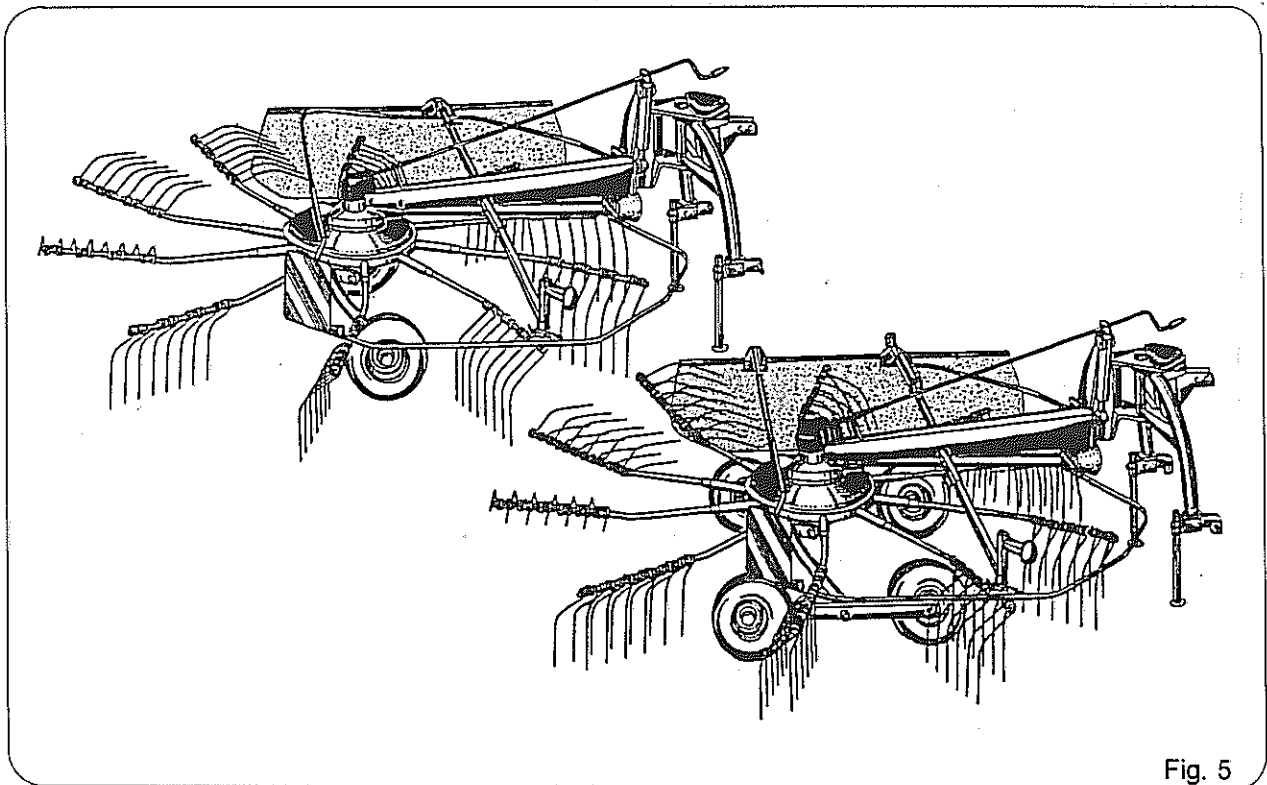
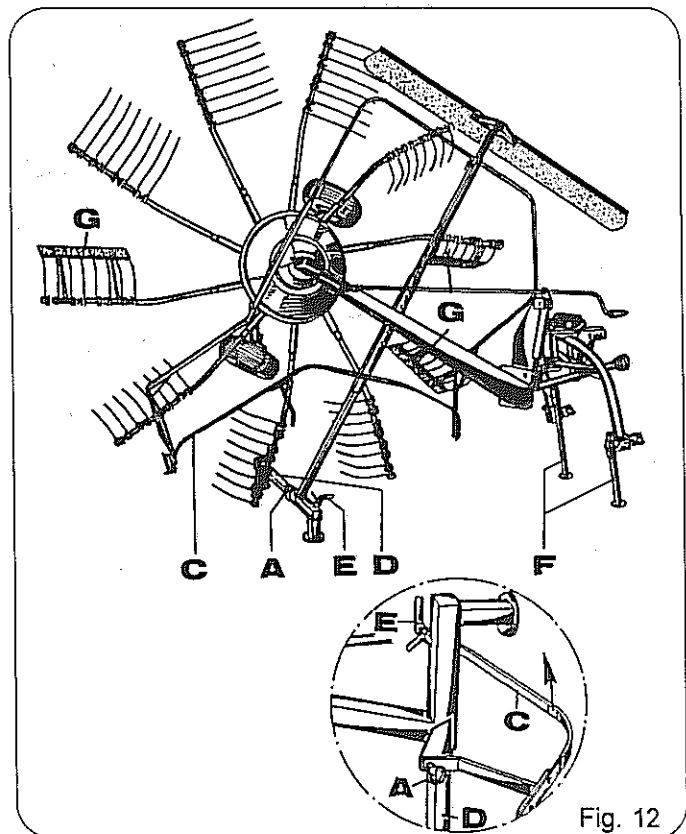

Fig. 5
Fig. 12
The swivel rake can be parked both in the working (page 9, fig. 5) as well as in the transport position (fig. 12).
In order to prevent possible injury from the tine ends the 3 or 6 protection caps are inverted over the tine ends and secured (fig. 12, pos. G).
- Remove the support holder (fig. 12, pos. D)